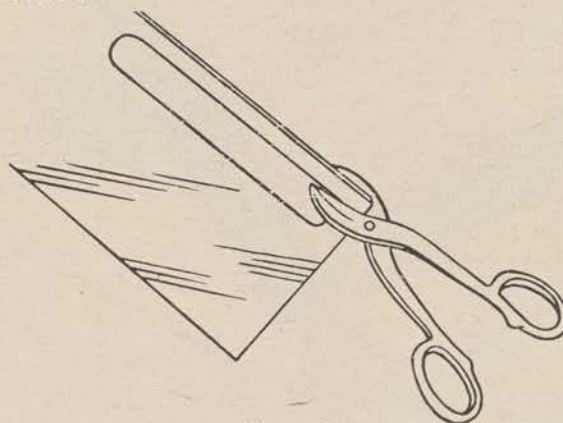

Figure 91.
(1) First, prepare a paper pattern, or template, of the exact size and shape which the bracelet is to take. An average length is about $5\frac{1}{2}$ inches. Transfer this to the metal by drawing around its edges with a pencil and scratch these lines in with the awl. Saw or clip out the strip and file the edges smooth (fig. 91).